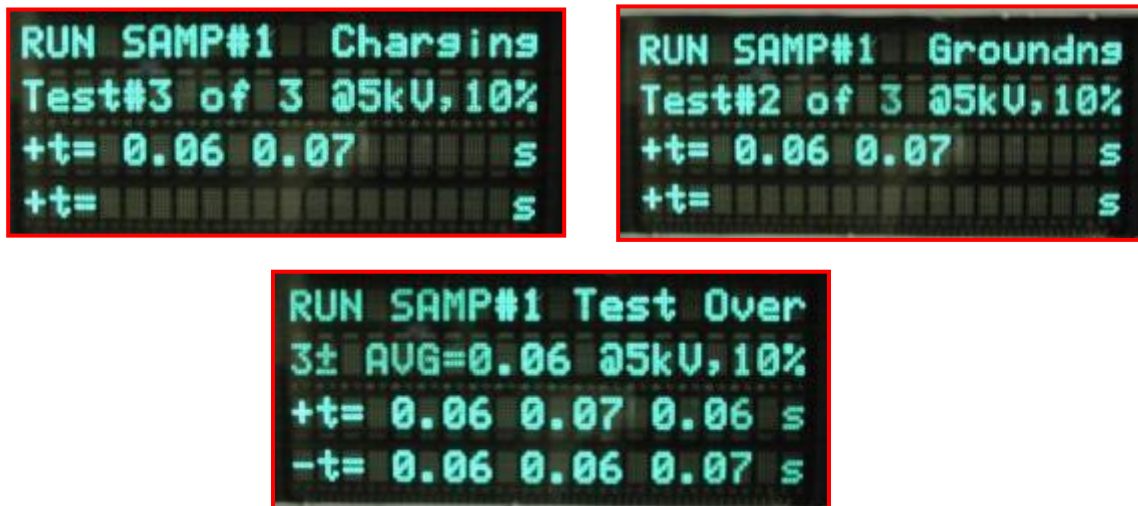

Figure 6-6: Auto mode decay test sequence display
AUTO mode: Select the **AUTO** mode by depressing the **AUTO/MAN** key. Depress the **DECAY TEST** key to start an automatic static decay time measurement sequence. Up to 6 measurements at +V and then at -V can be programmed. Three (3) measurements at each polarity is the default setting. Both +V and -V decay times will be displayed on the same screen. If more than 3 measurements are taken all the +V measurements are first displayed then all the -V measurements. The average of the + and - decay times for the sample tested is displayed. Each time the key is depressed another decay time sequence (on the same or new sample) will be measured and displayed as shown in Figures 6-6 The test cycle always starts at +V.